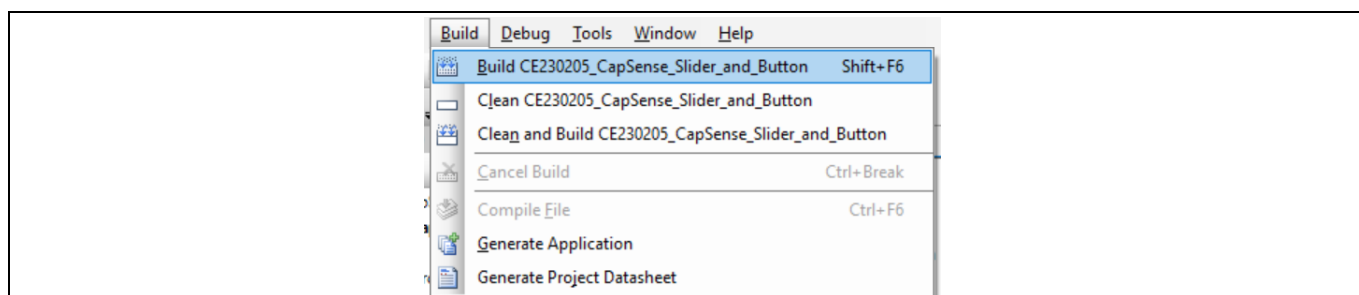

Figure 8 Build a Code Example
3. Select the option **Build > Build <Project_Name>** or press **[Shift] [F6]** to build the project as shown in Figure 8.